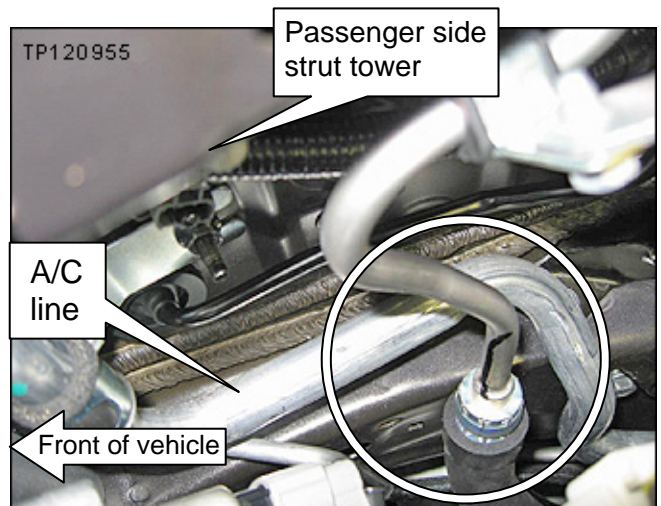

Figure 8
NOTE: The view in Figure 8 is downward from the inboard side of the passenger side strut tower.
- Check the location circled in Figure 8.